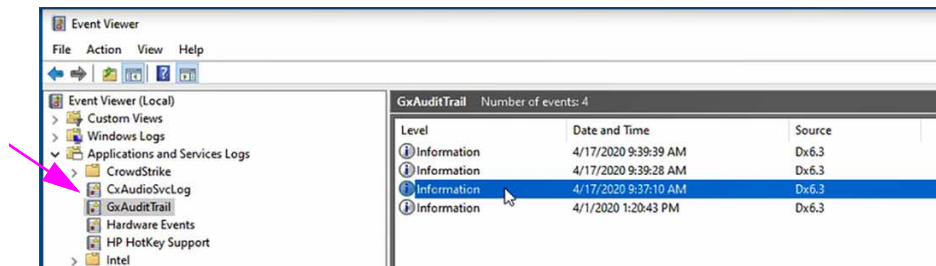

Figure 2-58. Windows Event Viewer
3. Click **Remove**. The user is removed. See Figure 2-58.